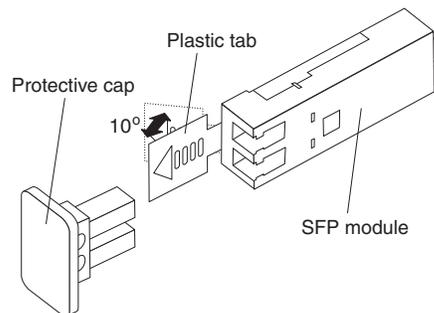

Figure 19. Unlocking an SFP module - plastic tab
- a. Unlock the SFP module by pulling the plastic tab downward 10° (see Figure 19).